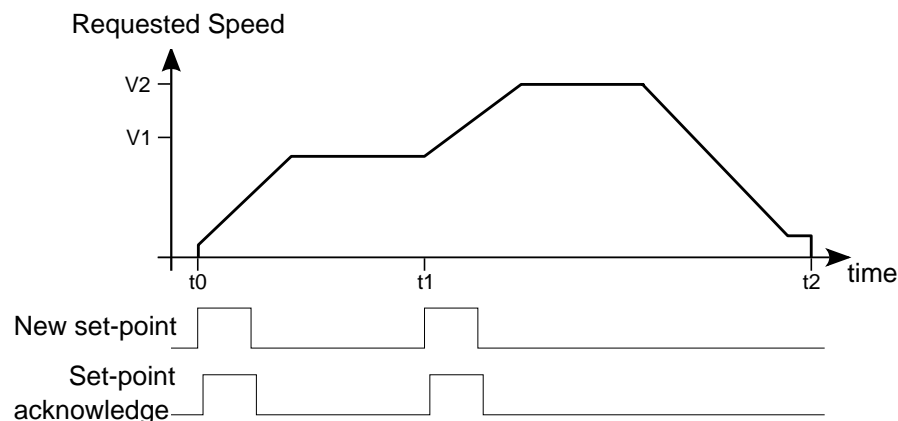
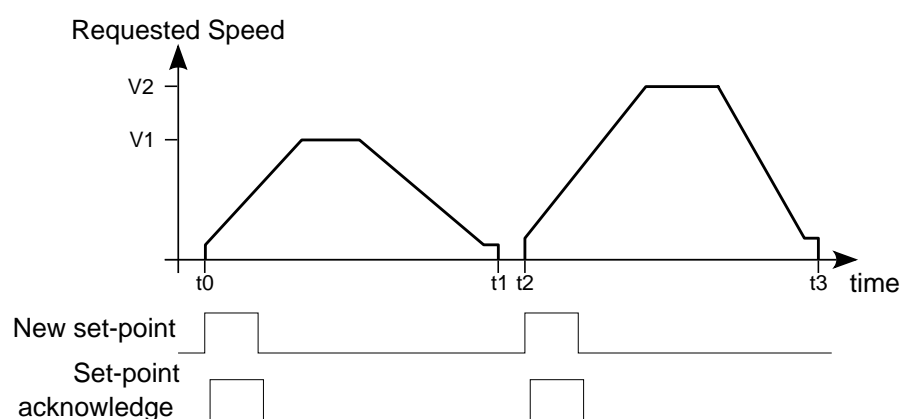

Figure 22.2. Timing chart Profile Position Mode in Single set point mode.
Figure 22.3. Timing chart Profile Position Mode in Set of set points mode.
- bit *Change set immediately*: through this bit it is possible to choose the mode of positioning between *Single set-point* (if the bit is set to 0) and *Set of set-point* (if the bit is set to 1). In the Set of set-point mode (see **Figure 22.3**) you can find only a buffer of data, the one for the data used during the positioning. In the Single set-point mode (see **Figure 22.2**) the positioning acts as described in the bit *Change immediately option* in the parameter **PositioningOptionCode**. The bit must be set with the transition of the bit *New set-point*;